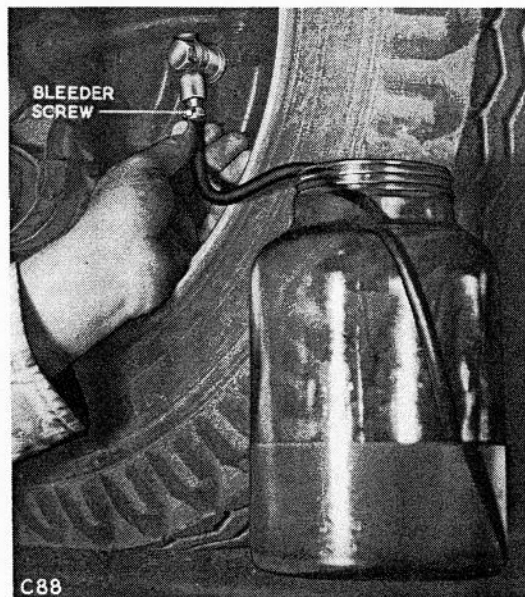

Fig. 11 Bleeding the system.
2. A bleeder screw is located at the rear of each of the wheel brake cylinders and is protected by a rubber cap. Clean off all surrounding dirt then remove the cap from all of the screws and attach a length of rubber tube. Place a clean glass jar containing a little fluid in an appropriate position, then submerge the free end of the tube into the jar, see Fig.11.